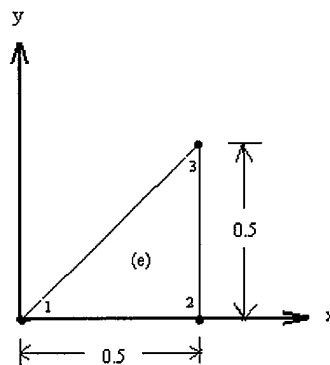

Fig. 3
- (3) If the nodal values of the element shown in Fig. 3 are $u_i = \hat{u}_i$ ($i=1, 2, 3$), compute u , $\partial u / \partial x$ and $\partial u / \partial y$ at point $(x, y) = (0.25, 0.25)$. (20%)